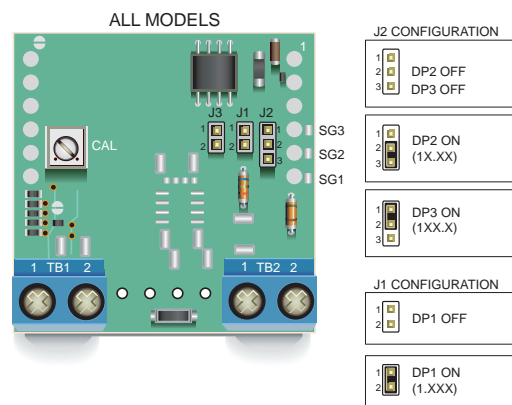

Figure 7. Decimal Point Selection Using J2 and J1 (Applies to All Models)
**7. Decimal Point Selection:** As shown in the Ordering Information guide, DCA5-20PC ammeters are multiple input-range devices. For example, with a 50mV input, DCA5-20PC-1-DC1 models can be configured to display "5.00", "50.0", or "500" Amps by simply removing or relocating decimal-point-selector jumper J2 (see Figure 7). Decimal points serve as placeholders only; they have no effect on displayed accuracy or resolution. If jumper J2 is not available, solder gaps SG1, SG2, or SG3 can be used to select DP1 ("1.XXX"), DP2 ("1X.XX"), or DP3 ("1XX.X"), respectively.